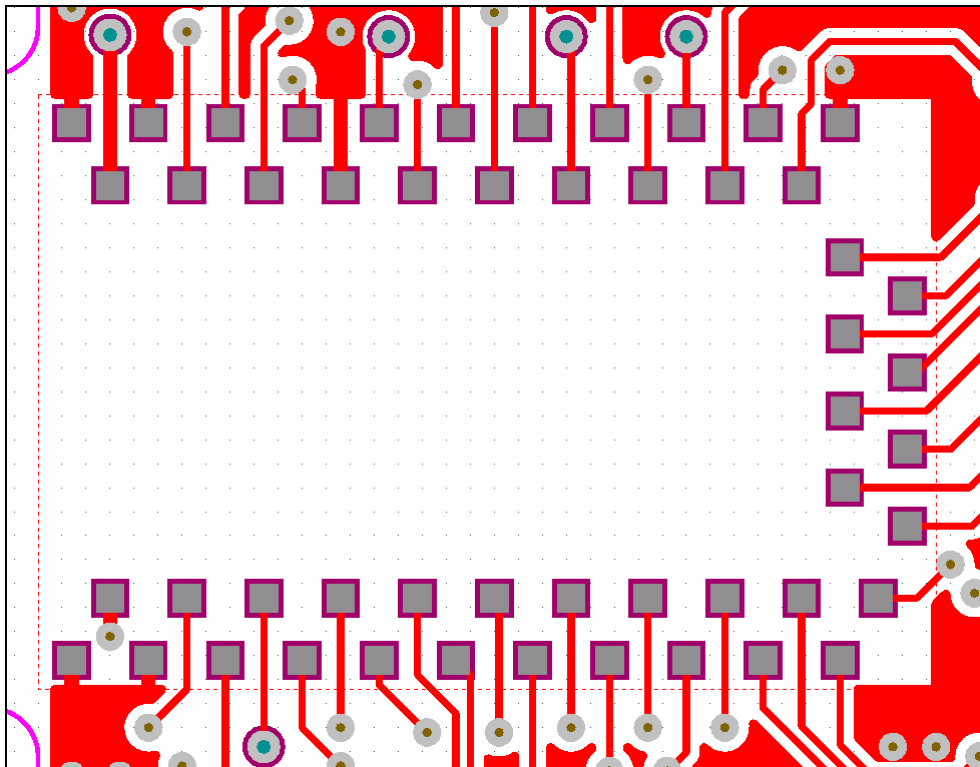

Figure 33: Exemplary base board footprint for 22M00 / 23M00 (top view)
Figure 33 shows an exemplary base board footprint for deRFmega128-22M00 and deRFmega256-23M00. Only the top layer (red) is visible. The mid and bottom layers are hidden. The rectangular signal pad copper area (red, not visible) and the paste dimension (grey) have the same size of 0.6 x 0.6 mm. The solder stop clearance (purple) has a value of 0.1 mm. Do not place copper on any other area among the entire module. Solder stop could be used everywhere.
- Route traces straight away from module (see **Figure 33**)